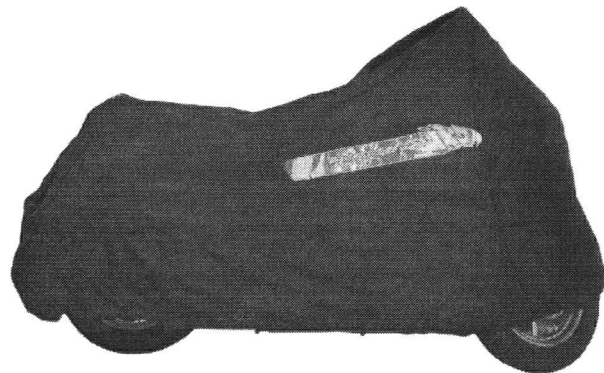

Figure 64. Screamin'® Eagle® Motorcycle Cover
7. See Figure 64. If motorcycle is to be covered, use a material such as light canvas or the cover provided with the vehicle. Select a material which will breath. Plastic materials which do not breath promote the formation of condensation.